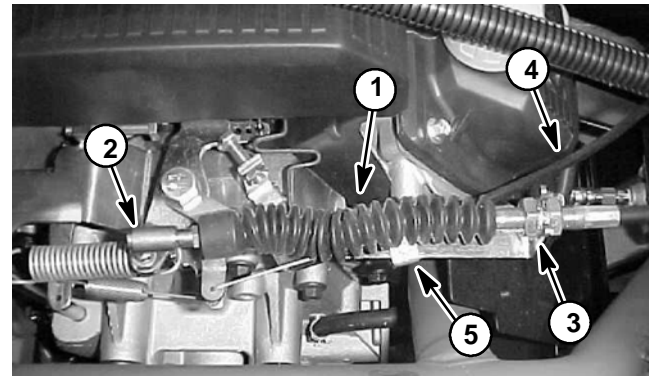

Figure 15
6. Remove accelerator cable from engine (Figs. 15 and 16).
7. Remove choke cable from the engine speed control bracket (Figs. 15 and 16).
6. Install choke cable to engine and secure with cable clamp (Figs. 15 and 16). Check choke cable adjustment (see Adjust Choke Cable in the Adjustments Section of this chapter).
7. Reconnect accelerator cable to engine (Figs. 15 and 16).